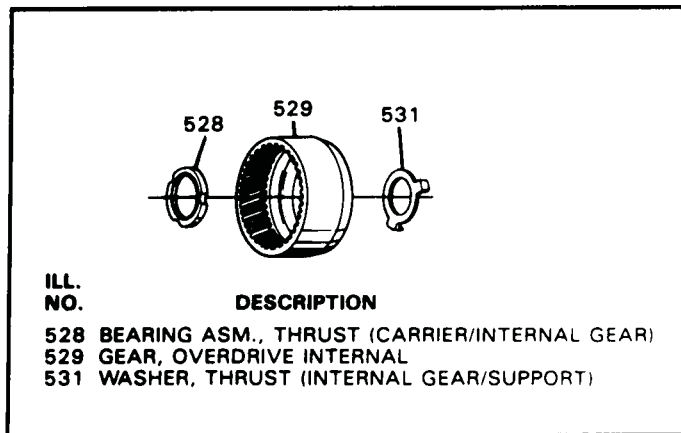

Figure 110
1. Clean and inspect all overdrive section parts that are shown in Figures 110 and 111.